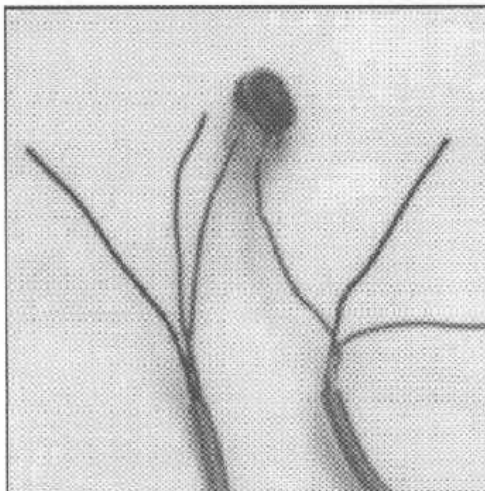

Figure 2-8. Unstripped Wires in a Scotchlok
- 5 Match up one pair of colored wires (Black to Black, Green to Green, and Red to Red) and insert the matching-colored pair into a Scotchlok (Figure 2-8).